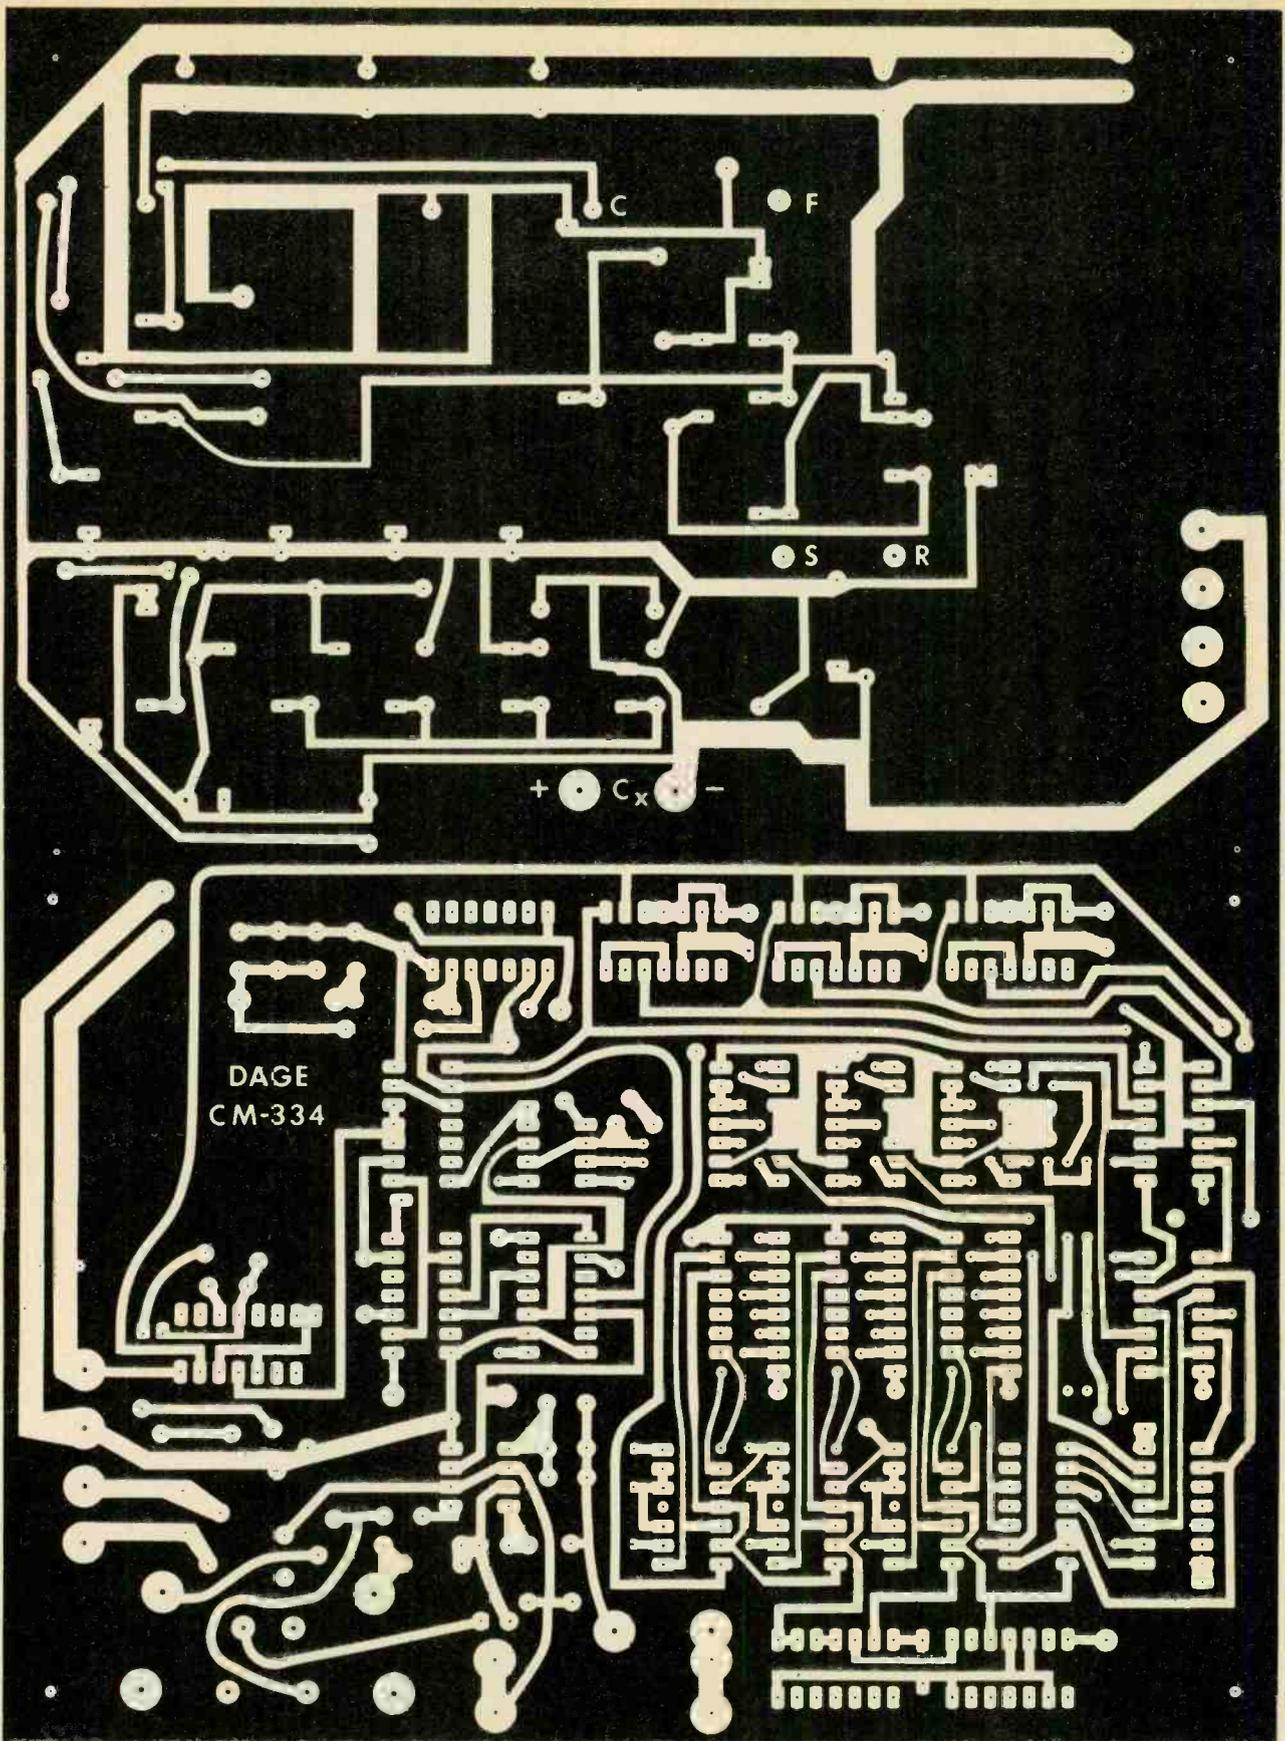

Fig. 7. Actual-size etching and drilling guides for the double-sided pc board.
**Construction.** For the most part, the circuit is not critical and any assembly technique can be used to reproduce it. However, the measuring circuit comprising IC20 and its associated components is critical, and should be properly shielded and decoupled from the other stages. Etching and drilling and parts placement guides for a suitable printed circuit board are shown in Figs. 7 and 8.